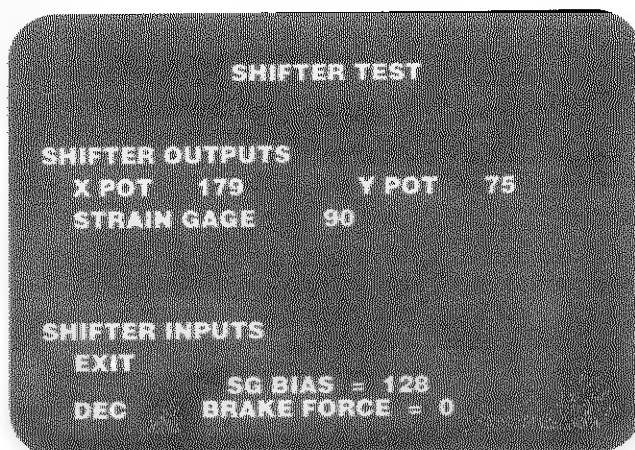

Figure 2-23 Shifter Screen
- Shifter* screen is described below and shown in Figure 2-23.
Use this screen if you have a problem with the shifter. Before you use the screen, see Figure 3-11, the shifter flowchart, to find out how to use the tests and settings on this screen. If you need to repair the shifter or the shifter PCB, see the shifter section in Chapter 3 for further information. The shifter screen is shown in Figure 2-23.